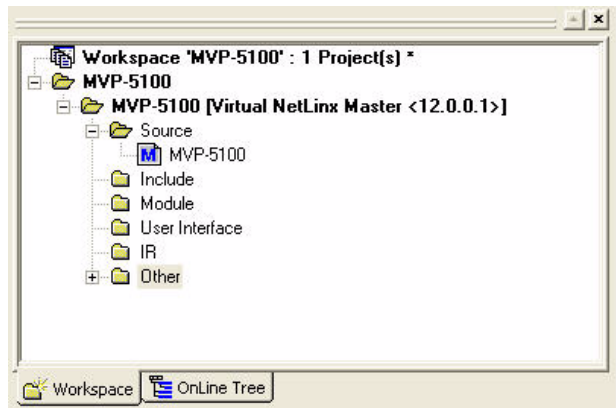

FIG. 74 NetLinx Studio Workspace Tree
2. Open the NetLinx Workspace (FIG. 74).